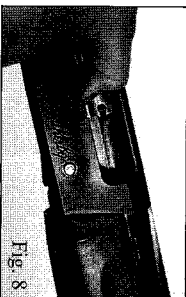

Fig. 8
4. With the other hand grasp the operating handle pulling rearward until the bolt locks into the rearward position (Refer to Fig. 8).